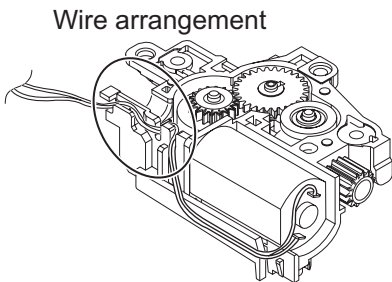

Fig.18
- (4) When attaching the Loading motor, motor wire should arrange to figure. (See Fig.18)